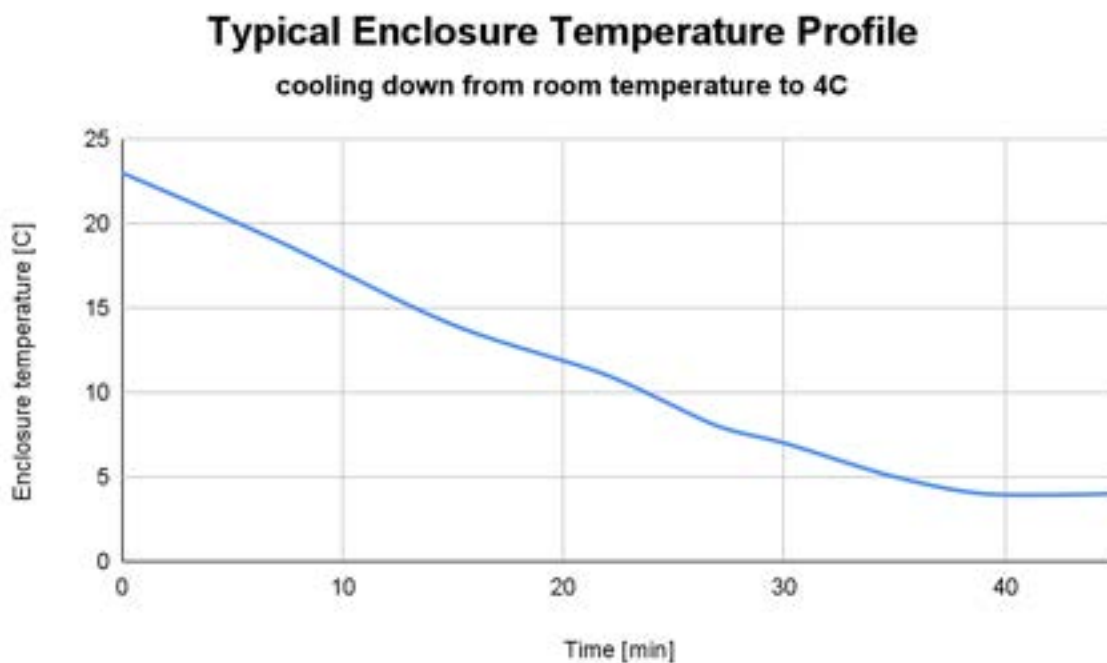

Figure A2: Typical startup temperature profile, cooling down from room temperature (23C) to 4C.
- STEP 5.** Wait for the enclosure to reach target temperature and humidity. This process should take <45 minutes (see **Figure A2** for a typical enclosure cooling profile). While waiting, prepare the liquid ethane and load grid boxes into the grid box holders, as many as are needed to store the number of grids to be plunged. **Note:** When loading grids into grid boxes, only one hand will be free to perform manual tasks. Thus, prior to plunge, prepare a grid box to receive the next plunged grid without additional manual intervention. **Note:** If using the MiTeGen Cryostat and Temperature Controller, please refer to the user manual for these products. **Note:** While these operation instructions refer explicitly to liquid ethane, they are equally applicable to all commonly used hydrocarbon-based cryogens (e.g. liquid propane, liquid ethane-propane mixture, etc.)